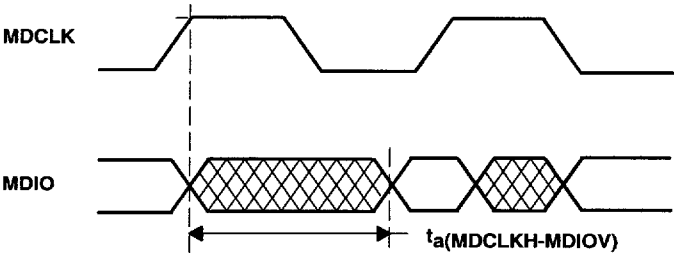

Figure 5. Management Data I/O Timing (Sourced by PHY)
**timing requirements for management data I/O (MDIO) (see Figure 5)**